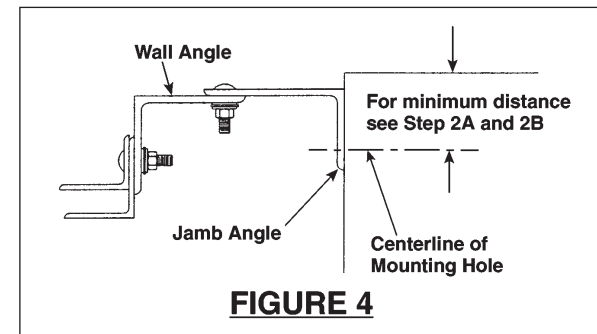

FIGURE 4
The jamb angle expansion anchors must be set back from the corner of the jamb by a distance in inches equal to 6 times the drill bit diameter in inches. See Figure 4. Refer also to Expansion Anchor Instructions 307390-0001.
The jamb angle fasteners must be set back from the corner of the jamb by at least 2-1/4" inches. See Figure 4.
- Remove top three bolts that fasten jamb angle to wall angle. See Figure 4.